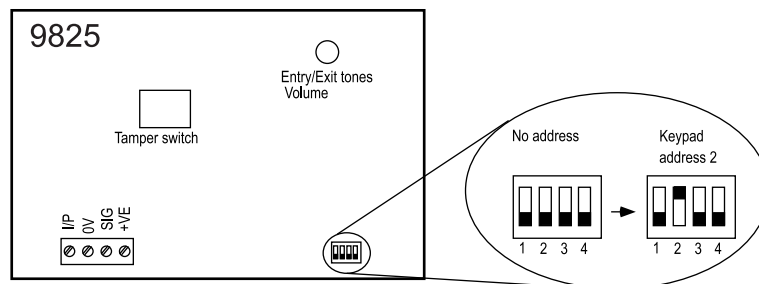

Figure 1. Keypad Address Switch
2. Open the keypad and identify the four position DIP switch on the keypad pcb, see Figure 1 below. Note that each switch is numbered 1 to 4. The numbers correspond to the keypad address.
You can alter the volume of the keypad sounder by adjusting the potentiometer located next to the sounder. See Figure 1. When first installing the keypad set the potentiometer midway using a small screwdriver.